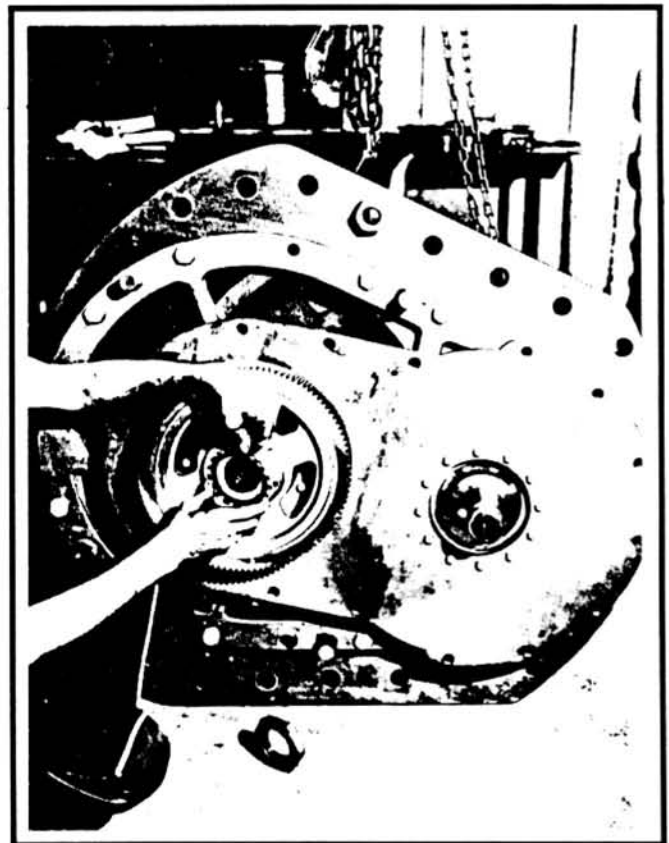

Figure 4-12 Replace lock washers. Tab on washer must seat into slot on timing gear.
NOTE: Tab on washer (item 31) must seat into slot on timing gears. (Figure 4-12).